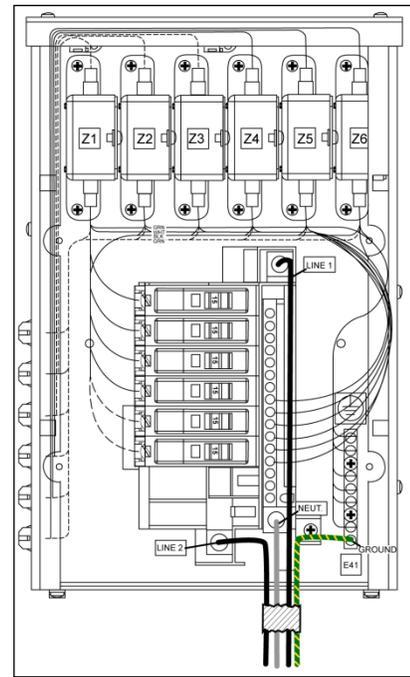

Figure 13: Single-phase 6-breaker Domestic Panel
4. The ground wire connects to the grounding bus bar. Refer to **Figure 13**.